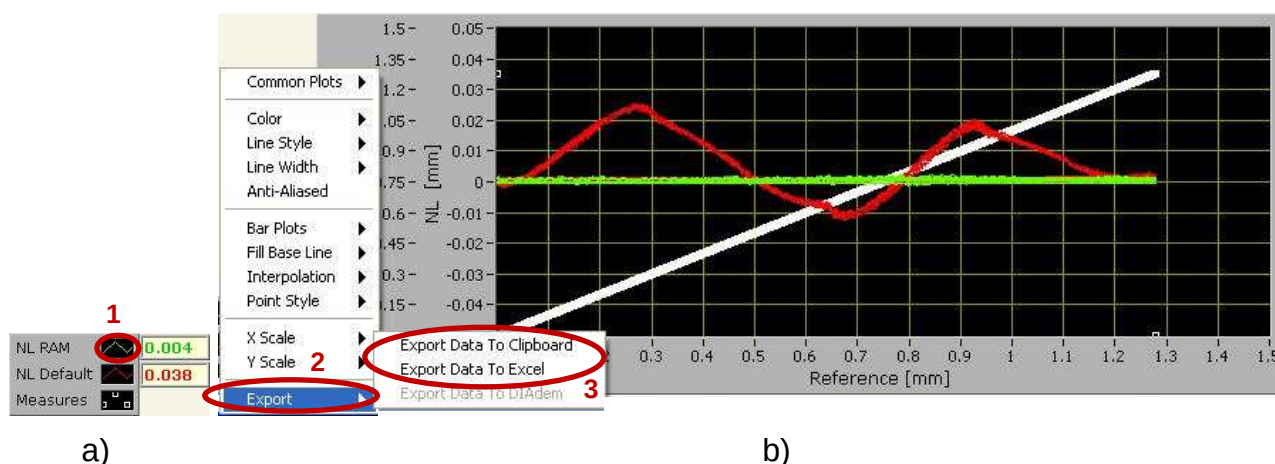

Figure 13 Export measurement data by right-clicking on the icon (a), selecting Export and then selecting your preferred export destination (b).
- 1) Right-click in the icon of the measurement that you want to export, see Figure 13 a.
- 3) Select whether you want to export the data to the clipboard (so you can paste it in any application) or to Excel (Excel will be opened with the measurement data in the first worksheet), see Figure 13 b.